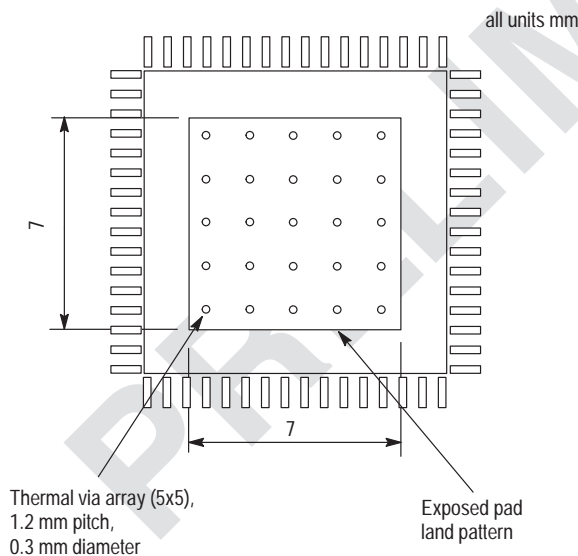

Figure 6. Recommended thermal land pattern
The MC100ES8223 uses a thermally enhanced exposed pad (EP) 64 lead LQFP package. The package is molded so that the leadframe is exposed at the surface of the package bottom side. The exposed metal pad will provide the low thermal impedance that supports the power consumption of the MC100ES8223 high-speed bipolar integrated circuit and eases the power management task for the system design. A thermal land pattern on the printed circuit board and thermal vias are recommended in order to take advantage of the enhanced thermal capabilities of the MC100ES8223. Direct soldering of the exposed pad to the thermal land will provide an efficient thermal path. In multilayer board designs, thermal vias thermally connect the exposed pad to internal copper planes. Number of vias, spacing, via diameters and land pattern design depend on the application and the amount of heat to be removed from the package. A nine thermal via array, arranged in a 3 x 3 array and using a 1.2 mm pitch in the center of the thermal land is the absolute minimum requirement for MC100ES8223 applications on multi-layer boards. The recommended thermal land design comprises a 5 x 5 thermal via array as shown in Figure 6. "Recommended thermal land pattern", providing an efficient heat removal path.